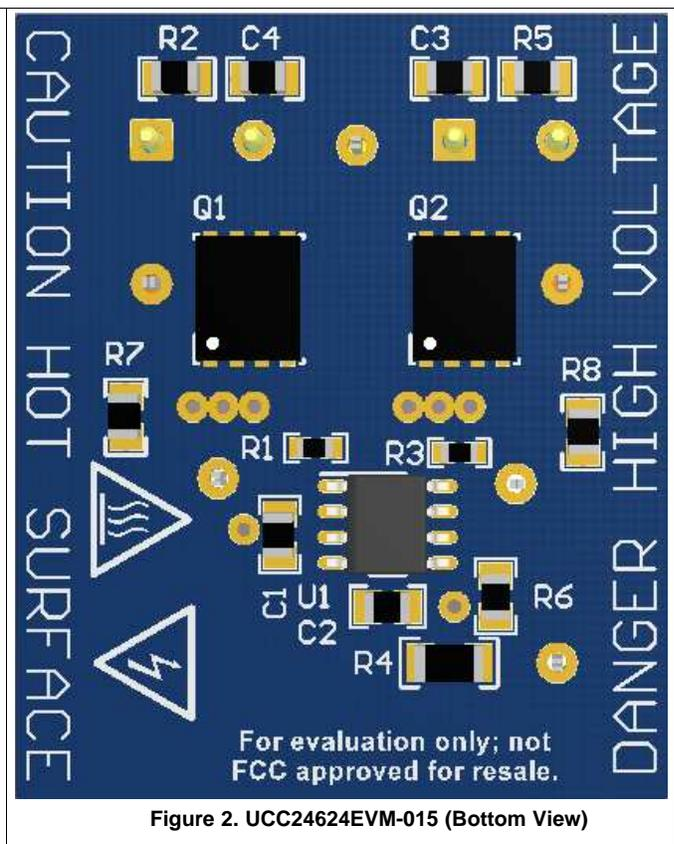

Figure 2. UCC24624EVM-015 (Bottom View)
• Changed Figure 2 .....	<a href="#">3</a>